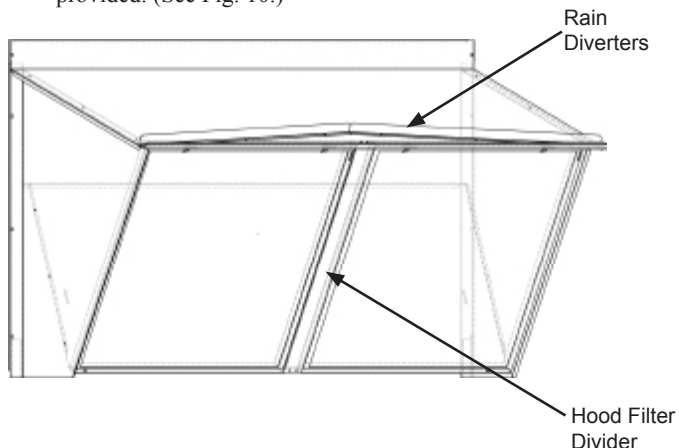

Fig. 4A - Hood for ECD-SRT05SA Economizers
5. Insert the hood divider between the hood sides. (See Fig. 3) Secure hood divider with 2 screws (provided) on each hood side. Screws should go through the hood sides into the divider. The hood divider is also used as the bottom filter rack for the aluminum filter. On hood for ECD-SRT05SA economizer install filter divider. (See Fig. 4A.)
NOTE: The ECD-SRT05SA hood has 2 aluminum filters and a hood filter divider that installs between the filters. (See Fig. 4A.)